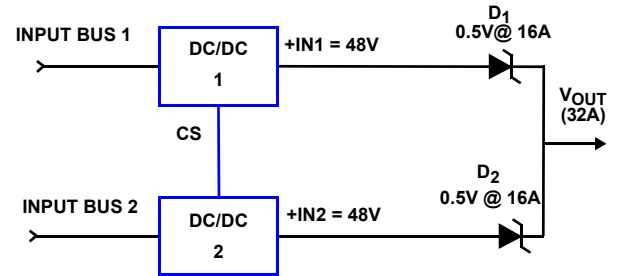

FIGURE 29. 1 + 1 REDUNDANT SYSTEM WITH DIODE ORING
For example, in a 48V, 32A (1 + 1) redundant system with current sharing, using a Schottky diode as the ORing device (Refer to Figure 29), the forward voltage drop is in the 0.4V to 0.7V range, (let us assume it is 0.5V). The power loss across each diode is shown in Equation 10:
- In the particular cases illustrated in the previous examples of Figures 29 and 30 with  $N = 1$ , each of the two ORing feeds have to be able to handle the full load current.